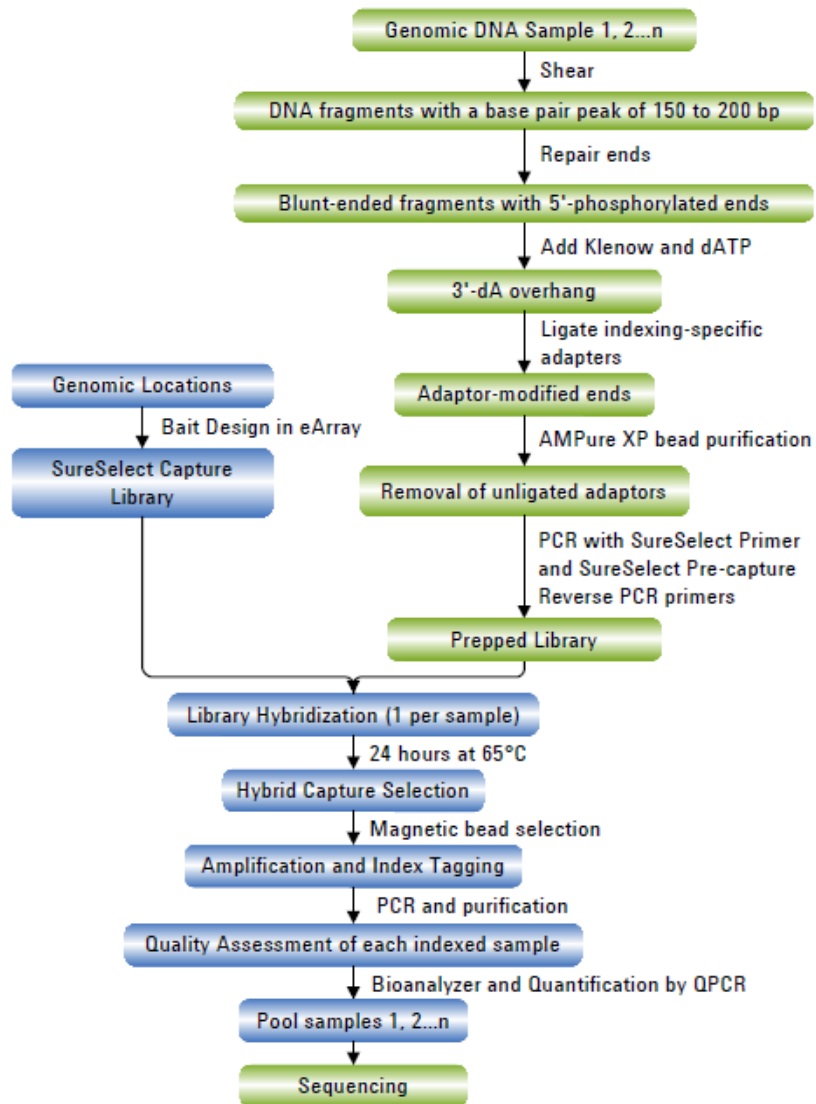

Figure 2 Overall sequencing sample preparation workflow.
Figure 2 summarizes the SureSelect target enrichment workflow for samples to be sequenced using the Illumina paired-read sequencing platform. For each sample to be sequenced, individual library preparations, hybridizations, and captures are performed. The samples are then tagged by PCR with an index sequence. Depending on the target size of the SureSelect capture, up to 16 samples can be pooled and sequenced in a single lane using the Illumina-specified multiplex index tags that are provided with SureSelect Library Prep kits.
- At the hybridization step (see Figure 2), you can add a different SureSelect Capture Library to each row of the plate. Plan your experiment such that each prepared DNA library corresponds to the appropriate SureSelect Capture Library.
- For sample indexing after hybridization to the SureSelect library (see Figure 2), you will need to prepare a separate plate containing the indexing primers. Assign the wells to be indexed with their respective indexing primers during experimental design.
- For post-capture amplification (see Figure 2), different SureSelect Capture Libraries can require different amplification cycle numbers, based on sizes of the captured targets. It is most efficient to process similar-sized Capture Libraries on the same plate. See Table 55 on page 110 to determine which Capture Libraries may be amplified on the same plate.